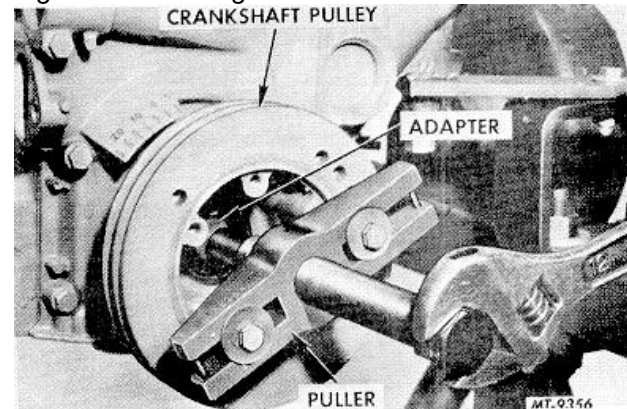

Fig. 43 Crankshaft Pulley Hub Removal Using Puller SE-1368
51. Remove the crankshaft pulley hub bolt and washer and using puller SE-1368 remove the pulley hub from the crankshaft, Fig. 43. If necessary, use an adapter or heavy flat washer between crankshaft and puller screw to prevent damage to internal threads in end of shaft.